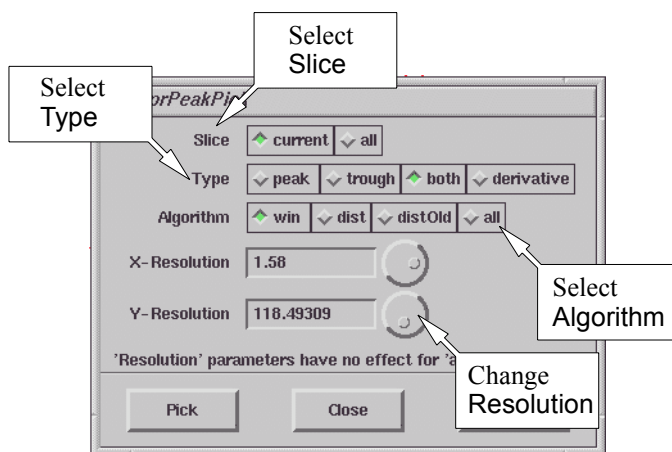
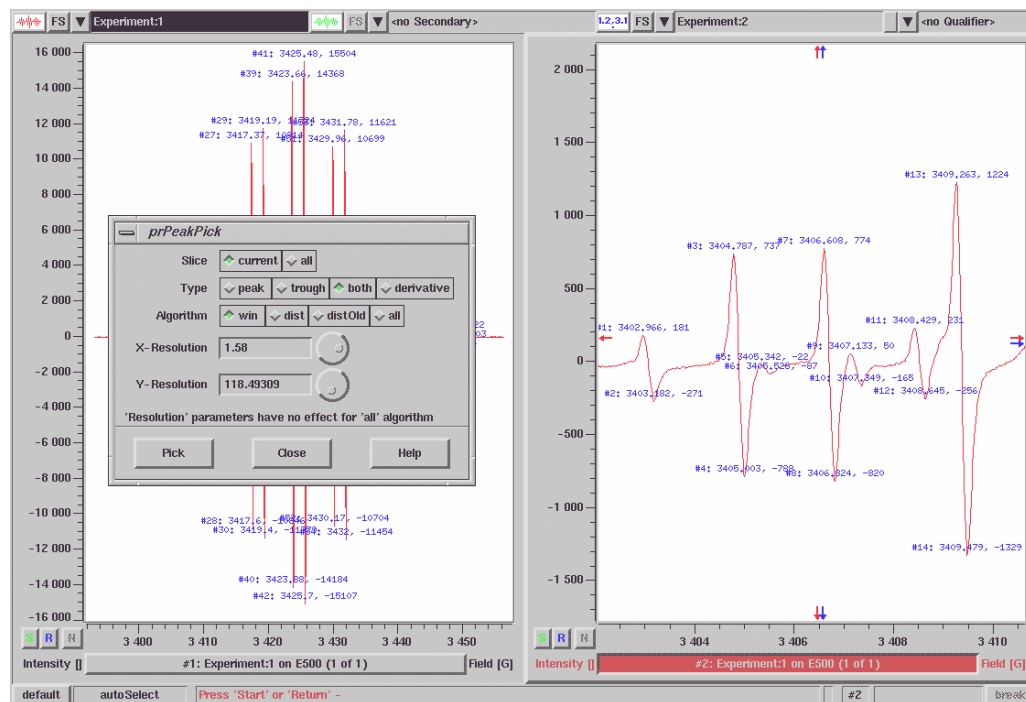

Figure 6-26 The Peak Picking dialog box.
Figure 6-28 Changing the resolution.
6. **Change the resolution.** The X- and Y-resolutions set the threshold for picking the peaks. In Figure 6-27, the small peaks are still not picked. Reduce the Y-Resolution by turning the knob counter-clockwise in the dialog box. (See Figure 6-26.) The small peaks will now be picked by the Peak Picking function. (See Figure 6-28.)